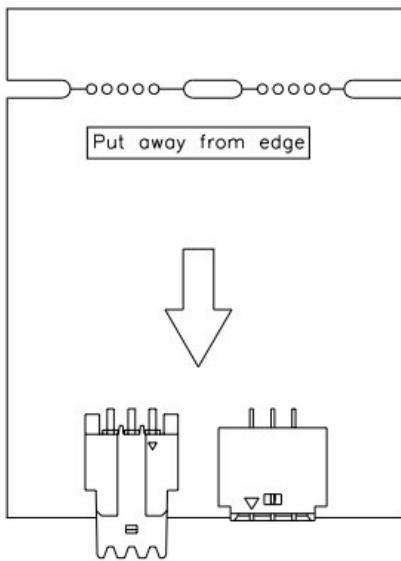

Fig. 2-3
- When P.C.B. is cut into multiple P.C.B. or fastened with screw after mounting, in order that stress is not added to soldering part, please be careful to put it away from edge or screw not to interfere each other ( fig. 2-3/2-4)